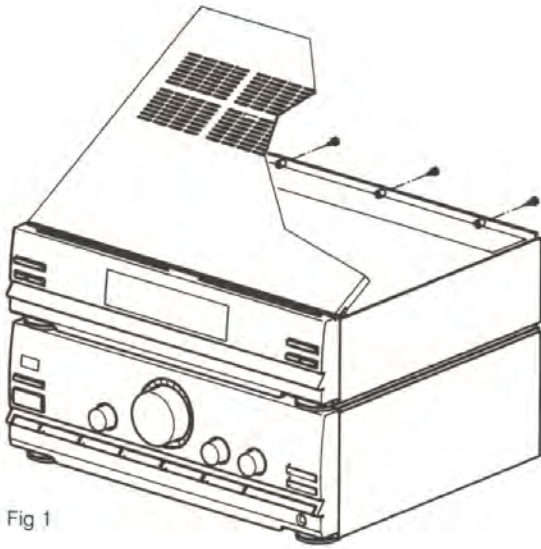
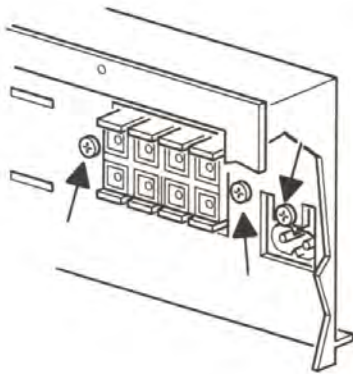

Fig 1
Fig 2
- 1) Loosen 3x Torx 10 screws (see figure 1).
- 2) Remove top (see figure 1).
- 3) Remove Power lever (pos 417). Only snapped on power switch.
- 4) Remove 3x Torx 10 (see figure 2).